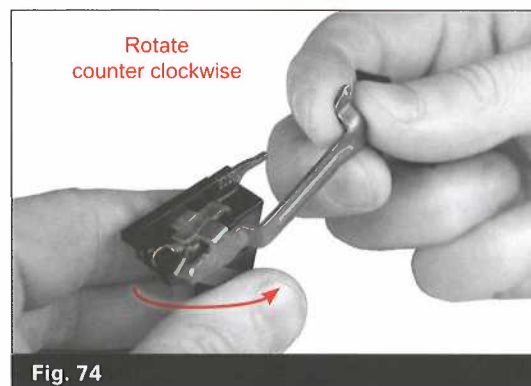

Fig. 74
- Carefully pull your hands apart about 1/4 in. (6 mm). Push the trigger pad straight away from yourself. This will move the left arm of the cruciform out from its position on top of the drop safety and allow you to lift the trigger bar away from the housing. (Fig. 74)
- Separate the trigger with trigger bar from the trigger spring by working the hooked end of the trigger spring off the trigger bar. (Fig. 74/75)